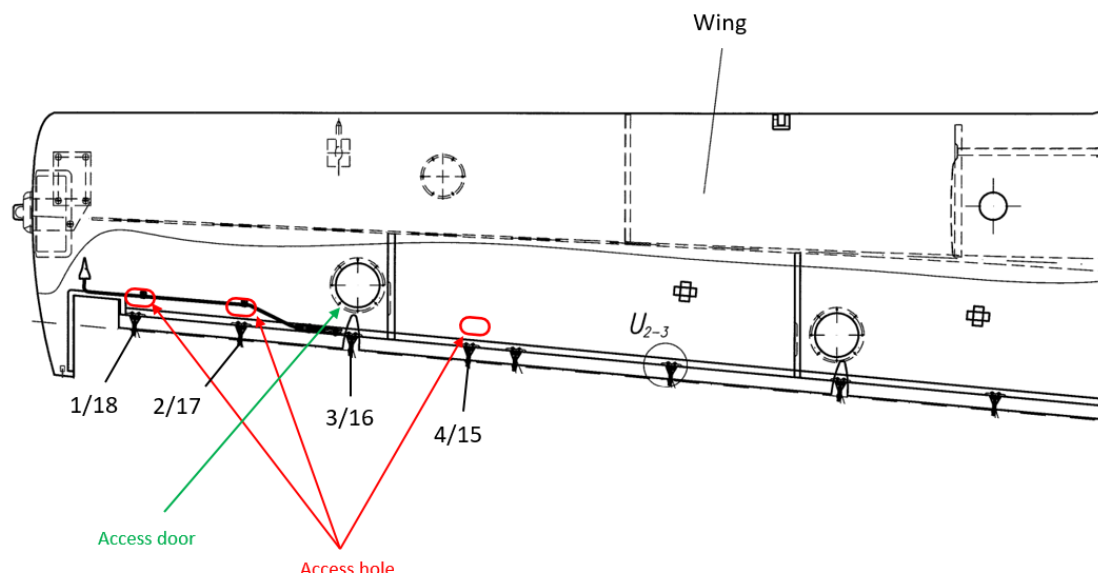

Figure 8: Wing Access Holes and Hinge Bracket Locations (LH shown, RH mirrored)
- 7.2.4 If required, cut an access hole into the wing surface as small as practical, refer to Figure 8.
- 7.2.10 Install four tapered bolts through holes in the spar. Wax the tapered bolts with release agent e.g. QZ5111 before installation. The tapered end must point to the inside of the wing, refer to Figure 2. Verify that the repair plate fits in the repair area properly. If required, trim the repair plate to fit (refer to Figure 8 and Table 2 for the P/N of the Repair Plate).